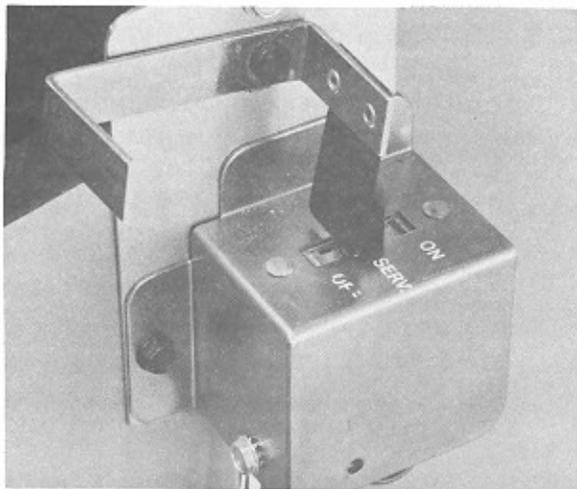

Figure 3-1. Service Switch
2. Move the Service switch to the SERVICE position (Refer to Figure 1-1 and Figure 3-1.).